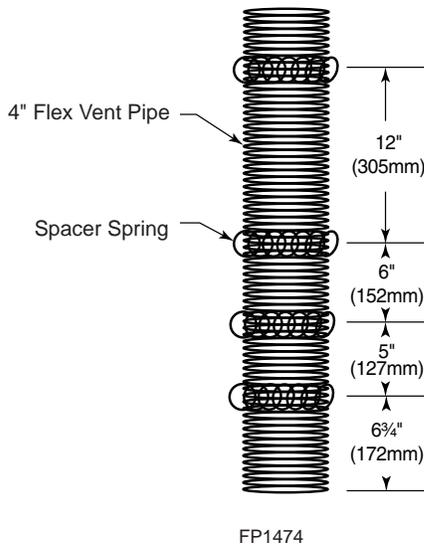

Figure 39 – Install Spacer Springs
Install the four (4) spacer springs on the 4" flex vent pipe. When installing the spacer springs around the 4" pipe, stretch the spring to approximately 15" (381 mm), wrap the spring around the pipe and interlock the ends of the spacer spring approximately 2" (51 mm). Measure 6 3/4" (172 mm) from the end of the pipe. Place the next spring 5" (127 mm) from the previously installed spring. Place the next spring 6" (152 mm) from the last spring. Finally place the last spring 12" (305 mm) from the last spring installed. *Figure 39*